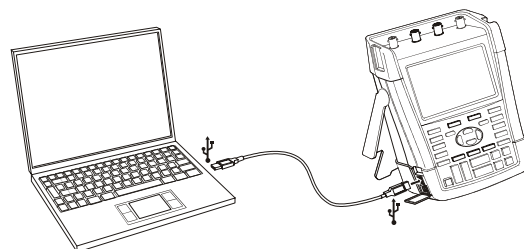

Figure 36. Connecting a Computer
- Use a USB-A to mini-USB-B interface cable to connect a computer to the mini USB PORT of the test tool (See Figure 36).